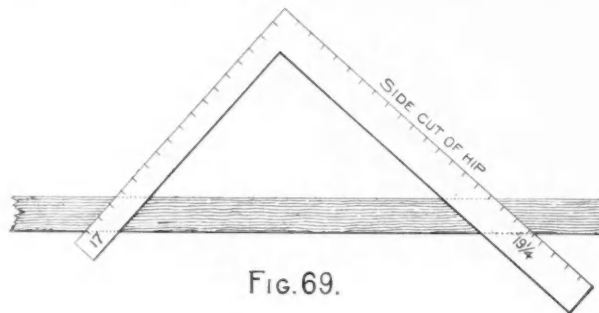
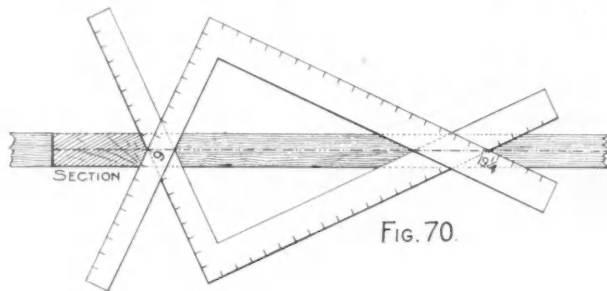

FIG. 69.
FIG. 70.
the length of the corresponding hip and this length taken on the blade, as at  $19\frac{1}{4}$  and the length of the run of the hip taken on the tongue as at 17 gives the side cut of the unbacked hip. The blade giving the cut as shown in Fig. 69. 9 on the tongue and  $19\frac{1}{4}$  on the blade will give the bevel for the backing of the hip as shown in Fig. 70. Take the length of the common rafter (15) on the tongue and the rise (9) on the blade,